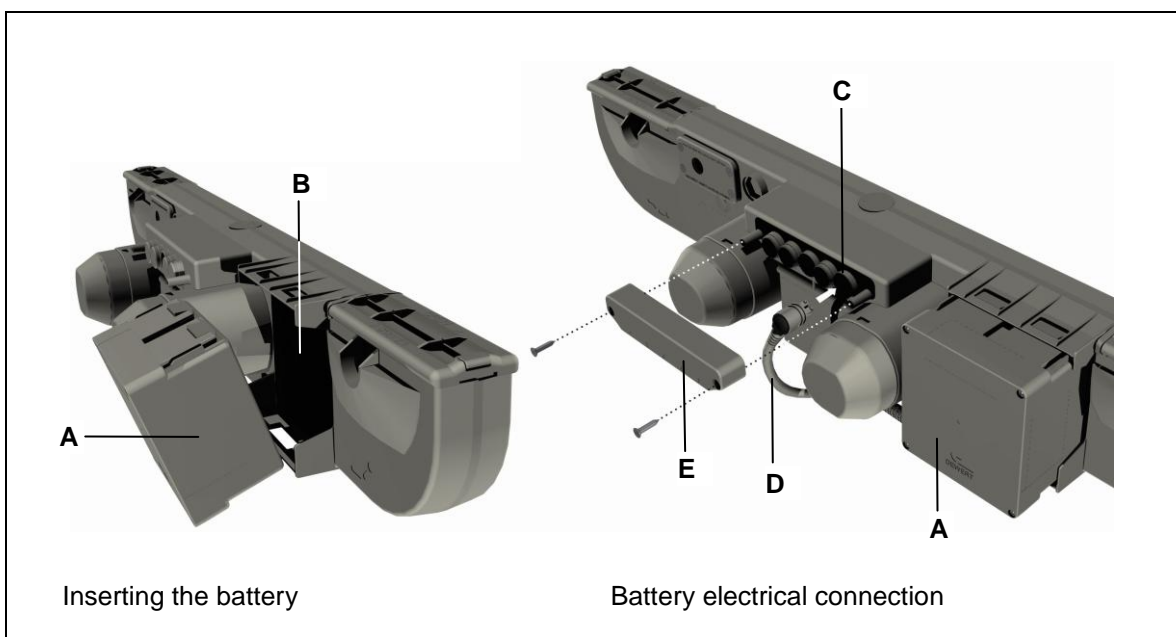

Figure 11 Battery connection for the DUOMAT 7
- 11 Attach the shield cover (as shown in Figure 11). More information is available in the "Connecting a rechargeable battery" section of this document.
- 1 First place the battery in the lower part of the compartment (B). Then push the battery into the upper part of the compartment until the tabs on the battery snap in.
- 2 Remove the shield cover (E) and the dummy plug on the battery socket (C) (when present).
- 3 Connect the battery cable (D) to the battery socket (C).
- 4 Put the shield cover (E) back on. Tighten the two screws on the cover as shown in Figure 11.
- 1 Remove the shield cover (E) as shown in Figure 11. Disconnect the battery cable from the socket (C).
- 3 Put the dummy plug back on the battery socket (C).